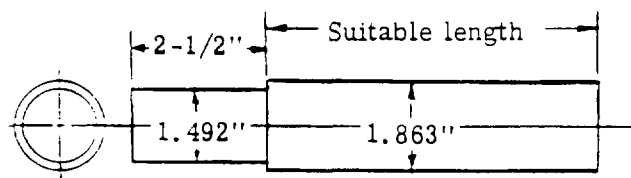

Figure 8-17. Bushing Removal and Installation Tool
8. Remove nylon bushings if replacement is necessary. Use suitable tool for both removal and installation of bushing. See Figure 8-17.